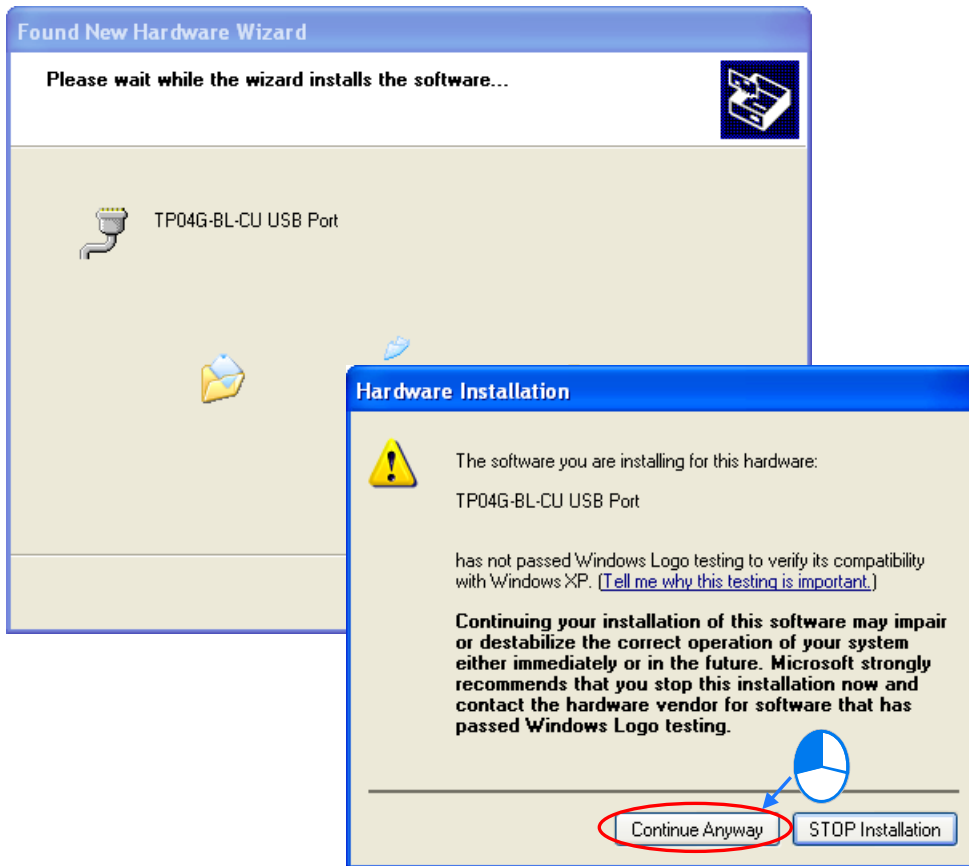

Figure B-4 Process of installing a USB driver
- (4) After the correct driver is found in the folder denoted by the path, the system will install the driver. If the **Hardware Installation** window appears during the installation, please click **Continue Anyway**, as shown in Figure B-4.